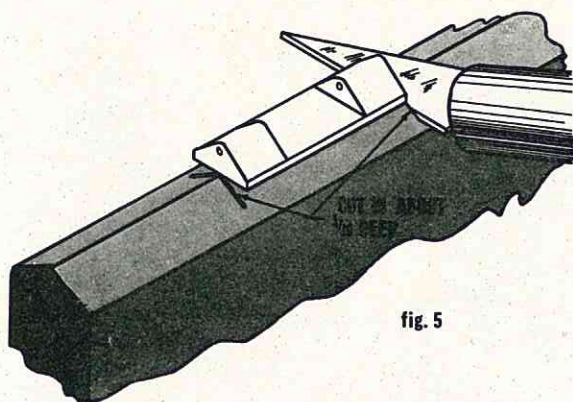

fig. 5
STEP 4. Use your knife again and mark the ends of the hinge onto the edge, cutting in about 1/16". (Fig. 5)